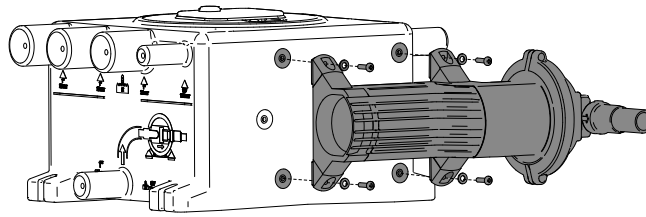

Figure 7 Attaching Gulper 220 to the Grey Waste Tank
- Fig. 7 Attaching Gulper 220 to the Grey Waste Tank